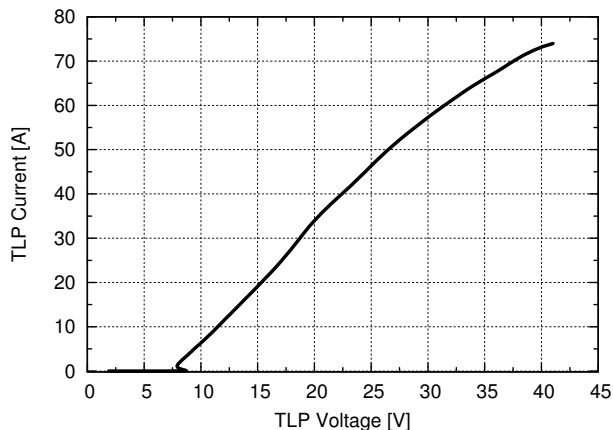
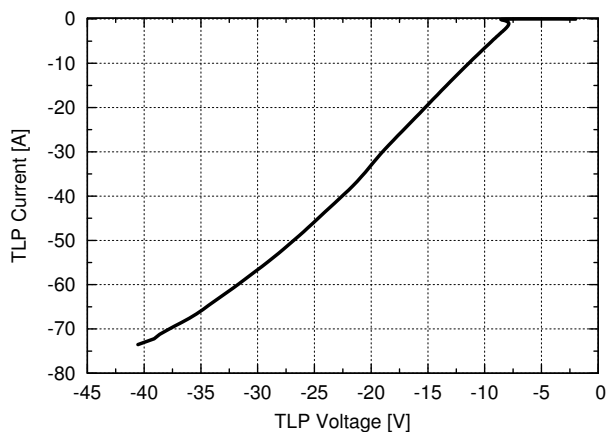
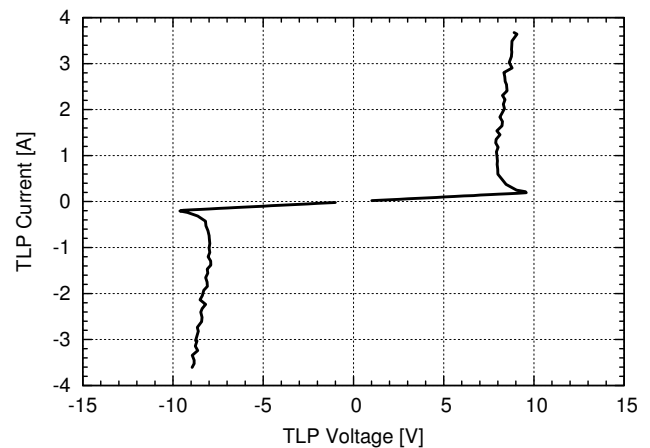

Figure 4: Typical positive clamping characteristic. TLP parameter: 50Ω , 100 ns pulse width, 0.6 ns rise time, 70 ns to 90 ns averaging window.
Figure 5: Typical negative clamping characteristic. TLP parameter: 50Ω , 100 ns pulse width, 0.6 ns rise time, 70 ns to 90 ns averaging window.
Figure 10: TLP test result with setup shown in Fig. 9.
Fig. 4 and Fig. 5 show the high current clamping characteristics of the TVS-70MF-10 for positive and negative polarities. The device can absorb energies up to ± 25 kV according IEC 61000-4-2 with $R = 330 \Omega$, $C = 150$ pF at contact discharge. Please note, that at >100 ns TLP pulse width the energy absorption capability of the device is decreased significantly.
eral, oscilloscopes from different vendors have different input maximum ratings of pulsed overstress at ESD/EOS condition. Therefore, HPPI cannot specify or guarantee any resulting level of protection. The resulting level of protection may be evaluated together with the oscilloscope vendor using the clamping characteristic of the TVS-70MF-10 shown in Fig. 4 and Fig. 5. The TVS-70MF-10 can be used from DC up to 6 GHz. Applying a DC voltage exceeding ± 5 V has to be absolutely avoided.
- Compare the measurement result with Fig. 10.
If the measurements according the above given description and those shown in Fig. 4, Fig. 5 and Fig. 10 differ significantly, please raise query with HPPI.